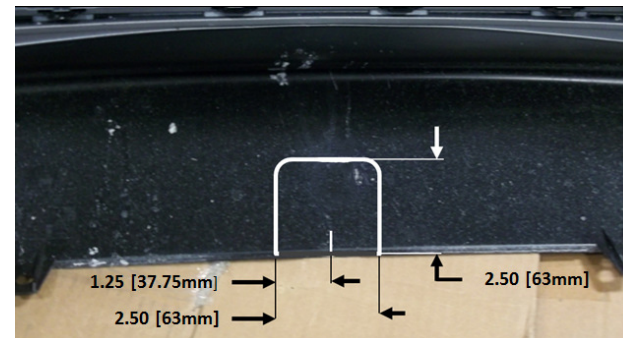

Figure 3
9. Trim fascia: using the center of the fascia marked in step 1. 2.50 x 2.50 off center mark. Use drill to create radius. See Figure 3.